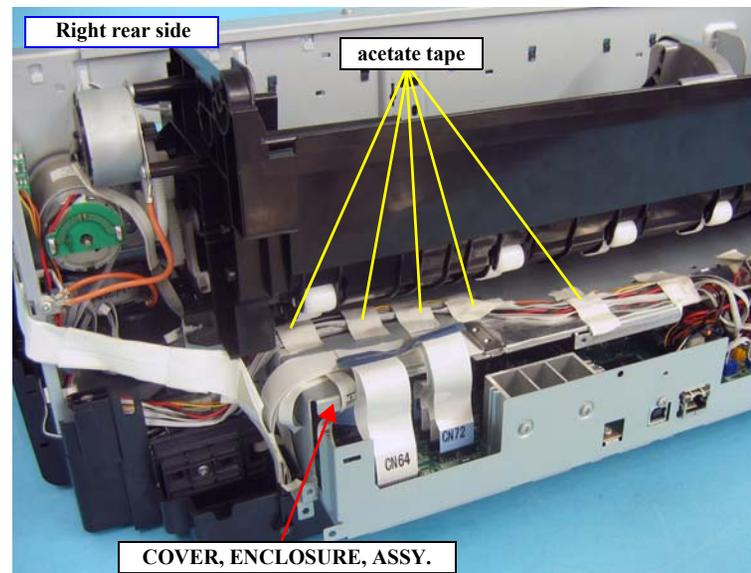

Figure 4-156. Releasing the PAPER, DETECTOR, ASSY. (PE SENSOR) Cables
4. Remove the acetate tapes on the COVER, ENCLOSURE, ASSY. to release the cables of the PAPER, DETECTOR, ASSY. (PE SENSOR). See Figure 4-156.
Route the cables of the PAPER, DETECTOR, ASSY. with other cables and secure them with the acetate tapes as shown in Figure 4-156.